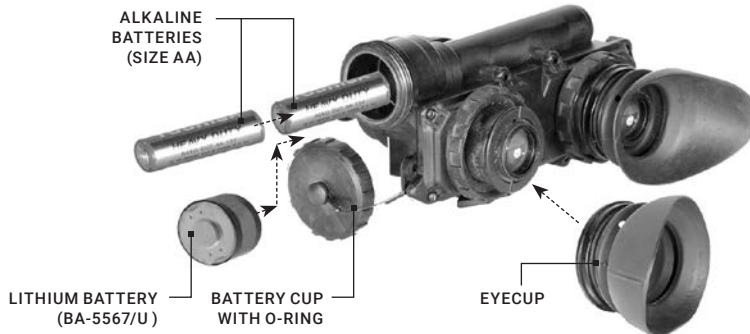

FIGURE 2-2. BATTERY AND EYE CAP INSTALLATION
3. Following the polarity markings on the outside of the battery compartment, insert either two AA (1.5 V) batteries or one BA-5567/U Lithium (3.0 V) battery into the battery compartment, positive (+) end first (see Figure 2-2).
To install the eyecups (refer to Figure 2-2):